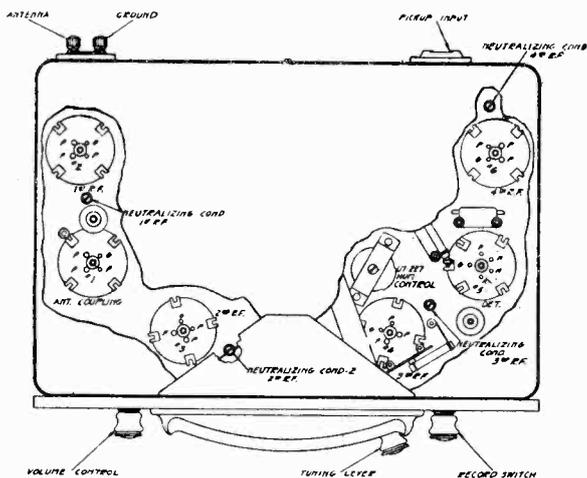
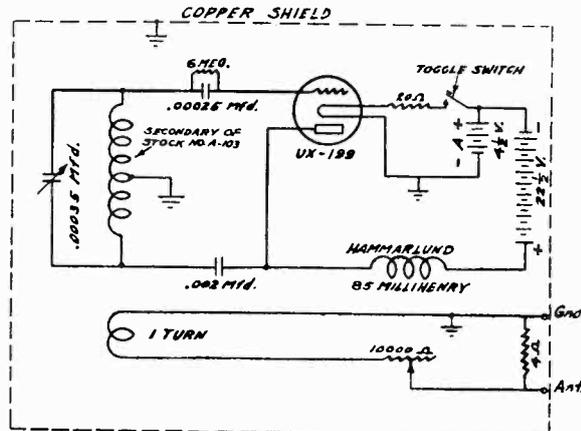

Fig. 5—Top View of Radio, Showing Radiotron Sockets
Fig. 6—Schematic Wiring Diagram, Modulated Oscillator
- c. Remove the tube in socket No. 1, Fig. 5, (coupling stage), place the UX adapter in this socket with the UY-227 in the socket of the adapter. Note the meter reading when all connections are made in accordance with Fig. 4 and no station is being received.
- d. Place the UX adapter in socket No. 2, Fig. 5, (1st R. F.), and note a slight increased meter reading when a powerful local station is tuned in. Note: If such a broadcast signal is not available, a modulated oscillator, such as shown in Fig. 6, can be used.